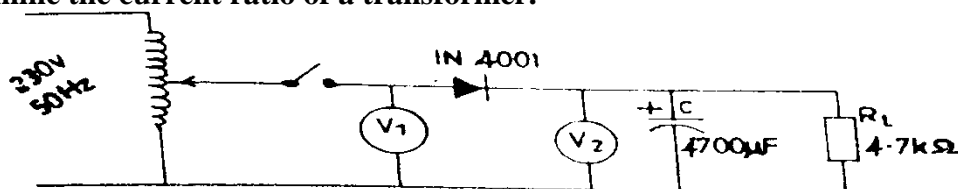

Figure 2
- Connect the circuit as shown in Fig. 2.
(a) **The sketch in Figure 2 shows an overhead crankshaft arrangement.**